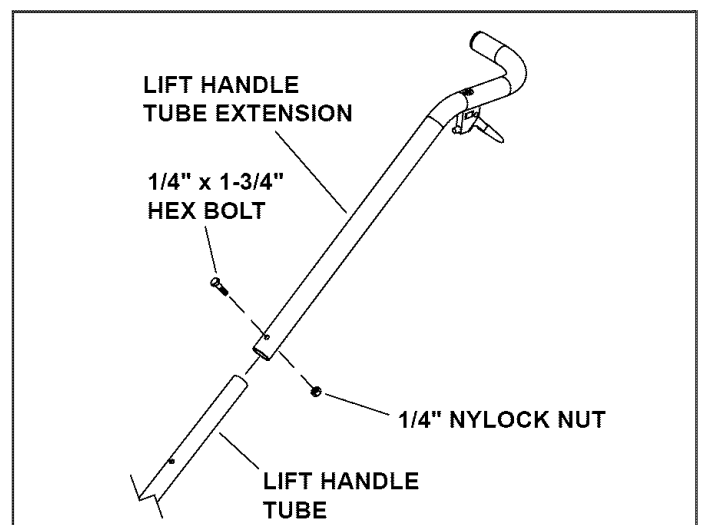

FIGURE 11
- Install the lift handle tube extension on the lift handle tube using a 1/4" x 1-3/4" hex bolt and 1/4" nylock nut. See figure 11.